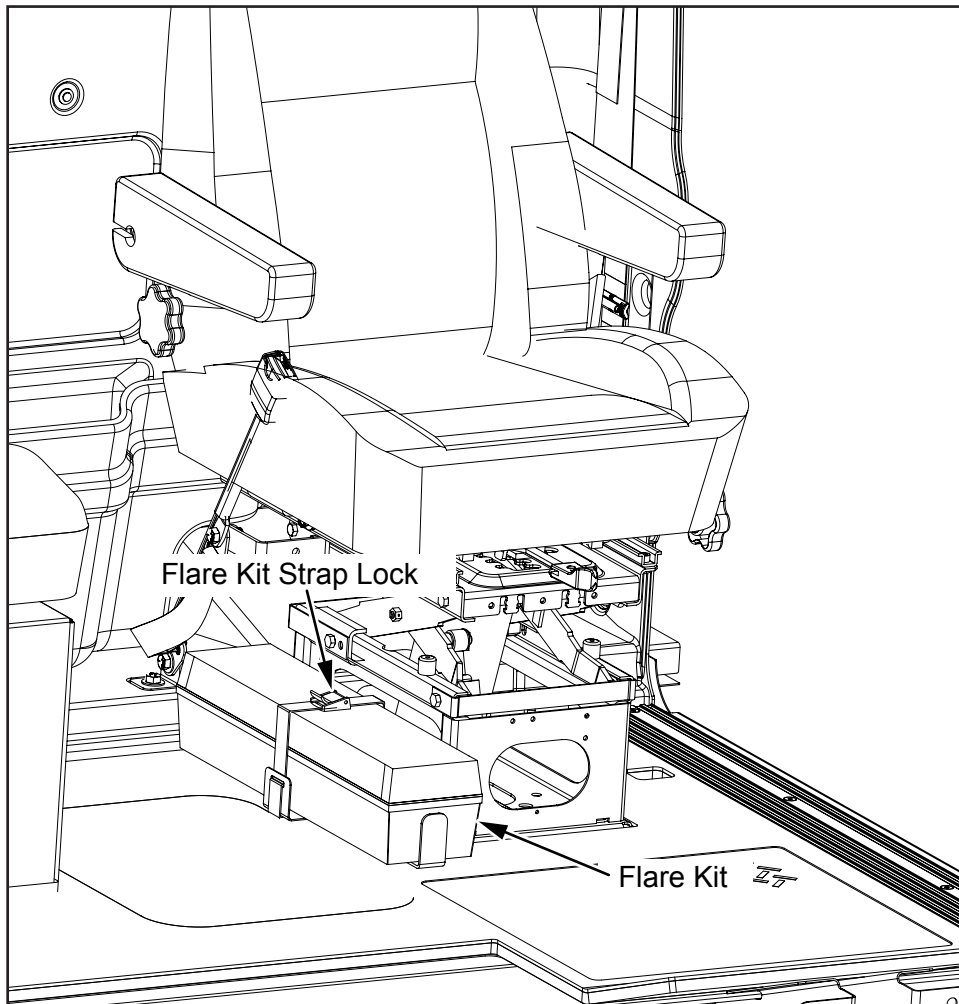

Figure 3
4. Unlock the strap, remove the flare kit and set aside for reinstallation (see *Figure 3*).